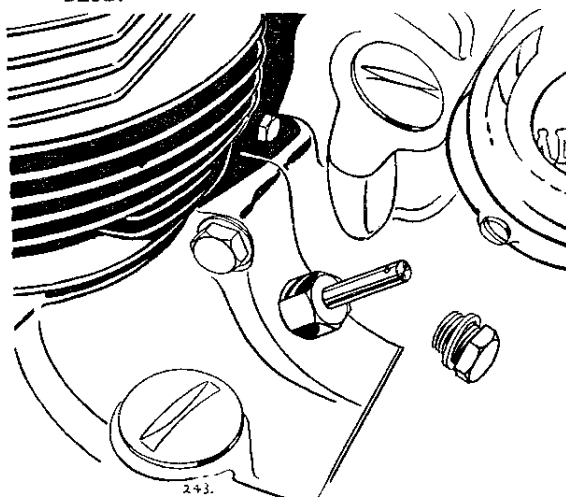

Fig. B32. Showing T.D.C. locating tool in use
- (1) Remove both sparking plugs.
- (2) Assemble the auto advance unit into the camshaft locating on the peg.
- (3) Assemble the contact breaker plate taking care not to trap the leads, and ensuring that the points connected to the black/yellow lead are at the 7 o'clock position. Loosely assemble the hexagonal pillar bolts and plain washers.
- (4) Lock the auto unit into the locating taper.
- (5) Remove the blanking plug from behind the cylinder block (see Fig. B32) in order to screw in a crankshaft location tool.
- (6) Remove the chaincase inspection cover by removing three screws and remove the paper washer.
- (7) Before timing the ignition, the contact breaker points must be adjusted as described in Section B26B.